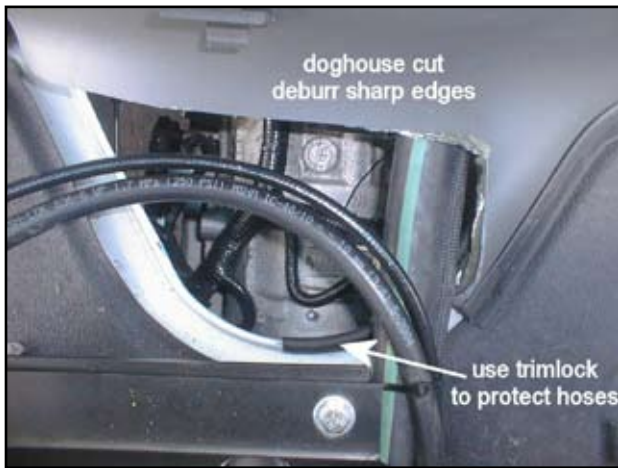

Figure 24. Engine Cover Alteration #1
9. Every install is slightly different; take careful measurements of the wire/ hose pack and the driveshaft before cutting the engine cover. Use trim lock with bulb gasket on the engine cover where the wire/hose protector meet. Install the driveshaft seal to the engine cover using rivets to seal the driveshaft. See Figure 24 - Figure 26 for engine cover alteration.